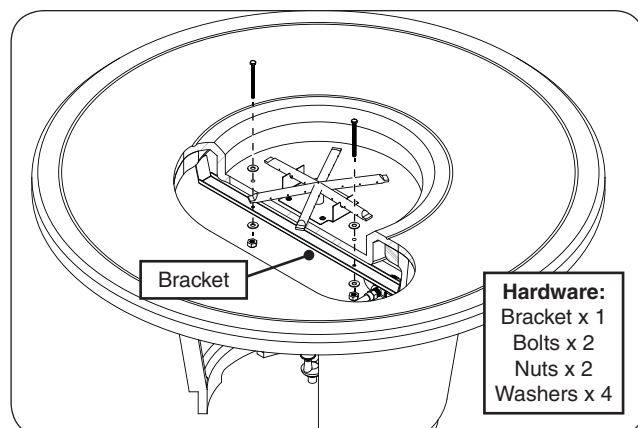

Fig. 18-4 Install bracket
5. Locate the supplied support bracket kit and install as shown in Fig. 18-4. The bracket must be inserted into the enclosure through the door opening, aligned with the holes found on the burner pan, and fastened with a 1/2" wrench and the supplied bolts (2), nuts (2), and washers (4).